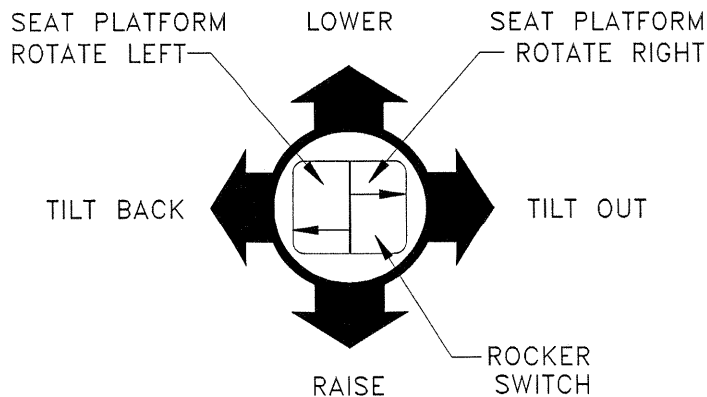

Fig. 3-14 Implement Control Handle
42. Hoist & Tilt Control See Fig. 3-14